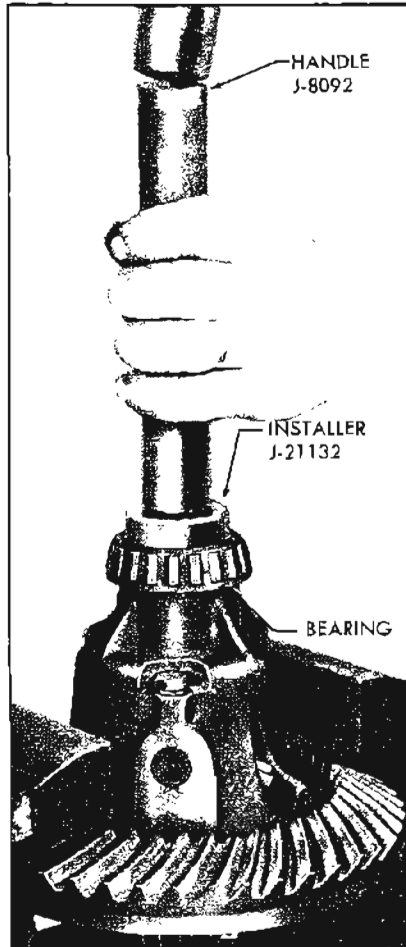

Figure 6-30—Installing Differential Side Bearings
6. If differential side bearings were removed, install new bearings using Installer J-21132 with Driver Handle J-8092. See Figure 6-30.